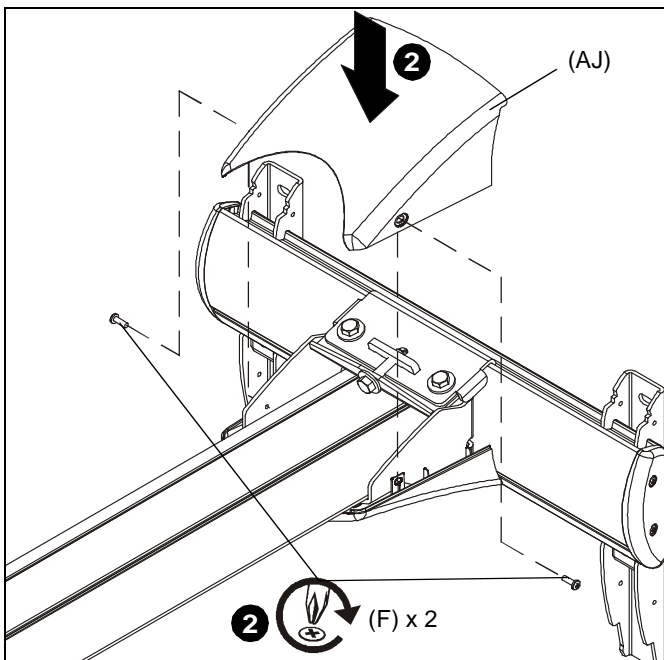

Figure 52
2. Lower the upper cover (AJ) onto the wall mount and fasten through upper cover (AJ), lower cover (AK) and into wall mount with two 8-32 x 1/2" Phillips pan head screws (F). (See Figure 52)